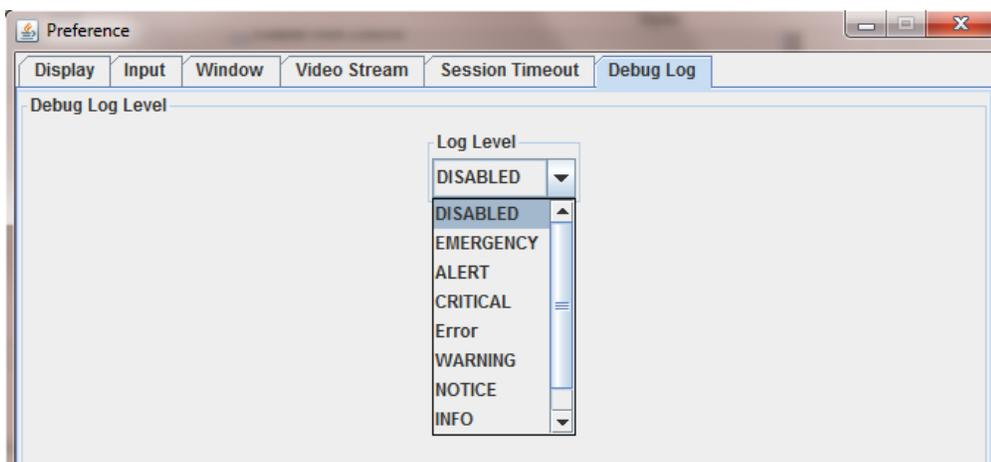

Figure 30. Remote Console Debug Log Settings
- **Debug Log** (Figure 30) – Select a log level of Disabled, Emergency, Alert, Critical, Error, Warning, Notice, Info or Debug. Table 3 defines each log level. The debug level is only for Java* viewers and log messages will appear on the Java* console, if enabled.